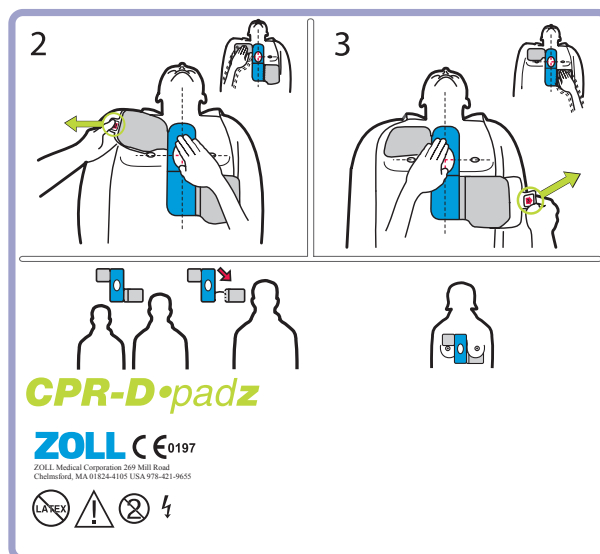

Figure 5: Placement of CPR-D padz
1. Tear open the electrode package and unfold the electrodes. Place the electrodes on the patient according to the graphics on the package (see Figure 5).
NOTE If the patient is large or there is a need to place the electrode under a breast, you may need to tear away the lower pad at the perforated line (see Figure 5) and extend the pad. Place the pad slightly to the patient's left and below the patient's left breast.